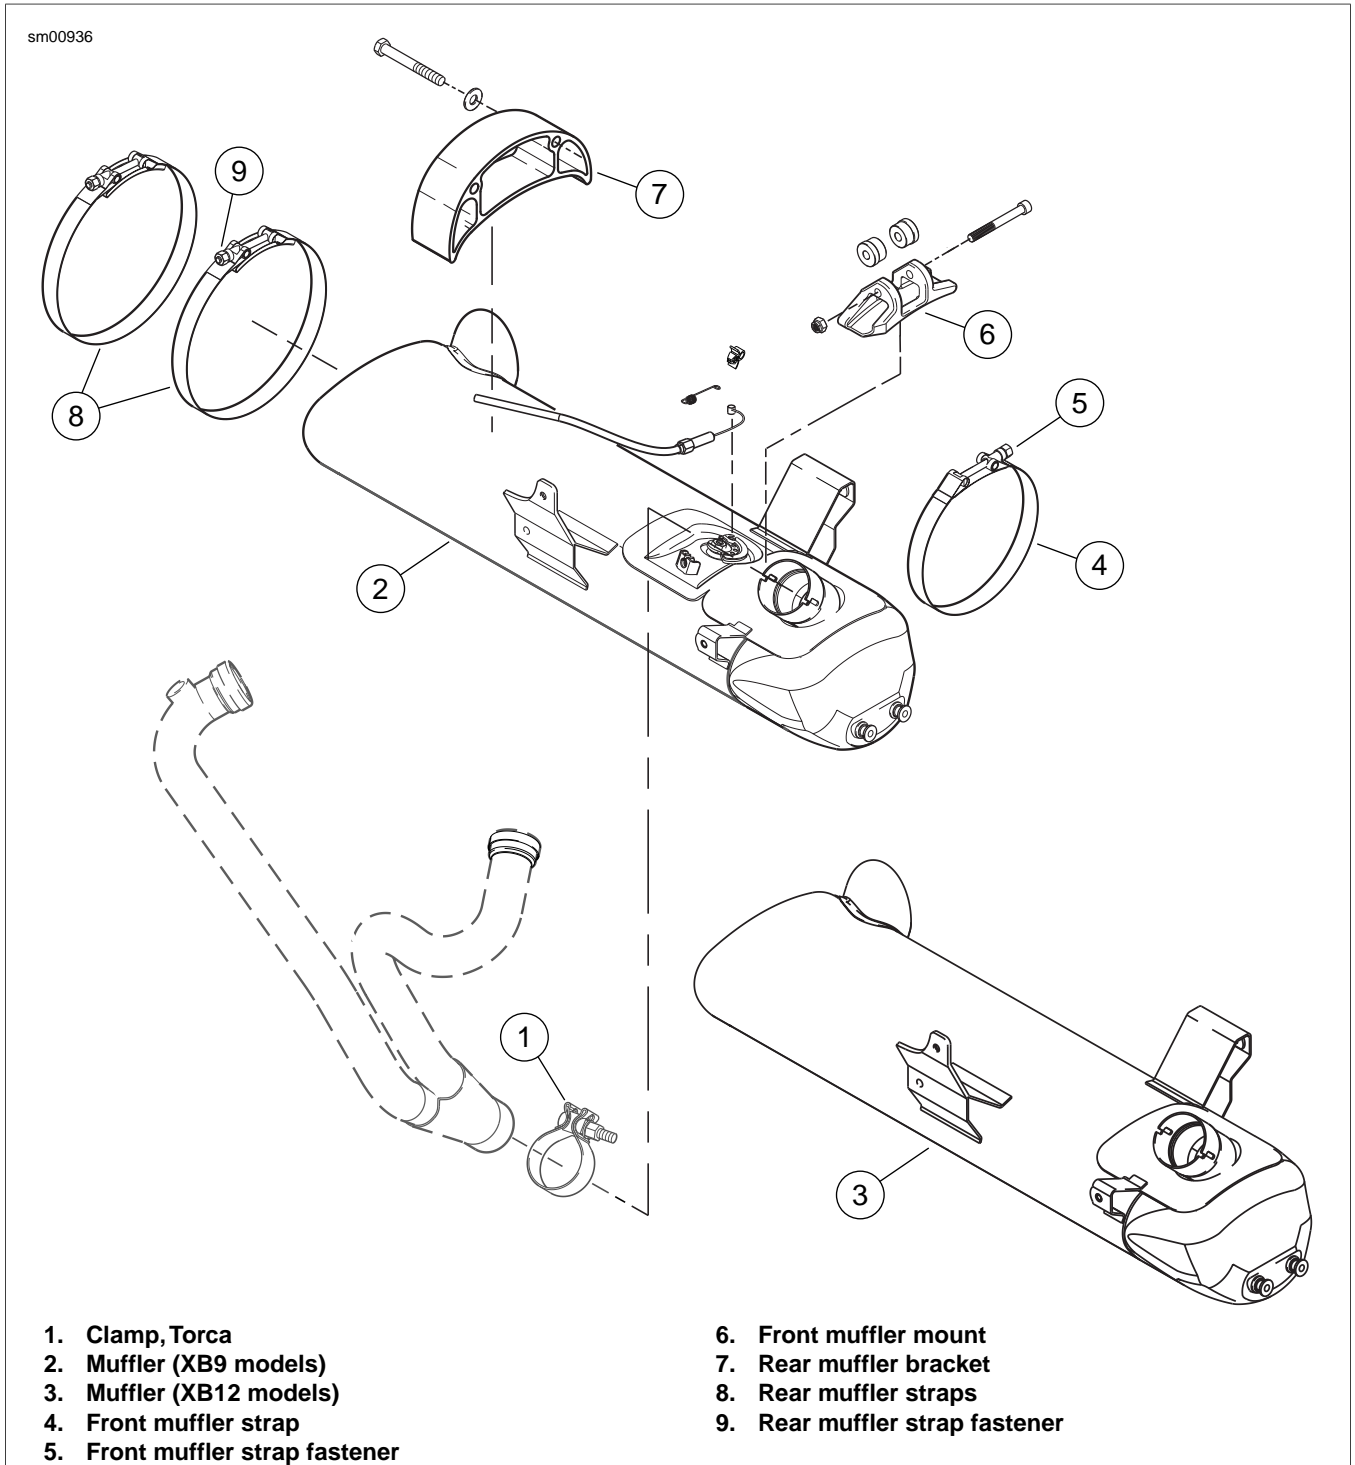

Figure 3-36. Muffler Mounting System
18. See Figure 3-36. Apply LOCTITE 271 (red) to rear muffler bracket fasteners, install and tighten to 32-36 ft-lbs (43.4-48.8 Nm).